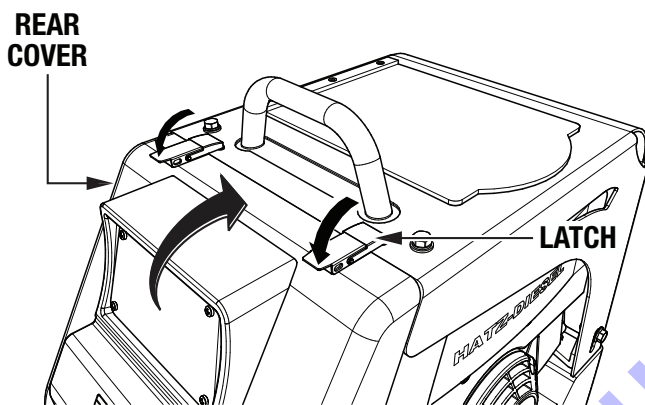

Figure 35. Close Rear Cover
4. Close the rear cover and secure it with the two latches (Figure 35).